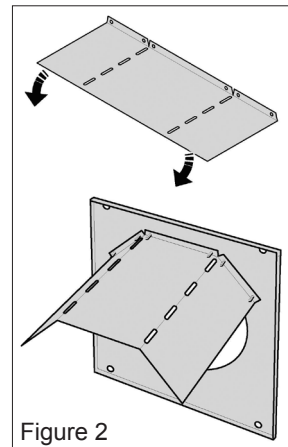

Figure 2
1. Bend the wall shields and screw to the inside of the wall plates with 6 thread-cutting screws per plate. See figure 2.